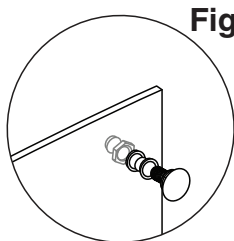

Fig. 1
Install Top Rollers (14) onto the Door Panels (7) with the wheels on the outside of the panel as shown in Fig. 1.